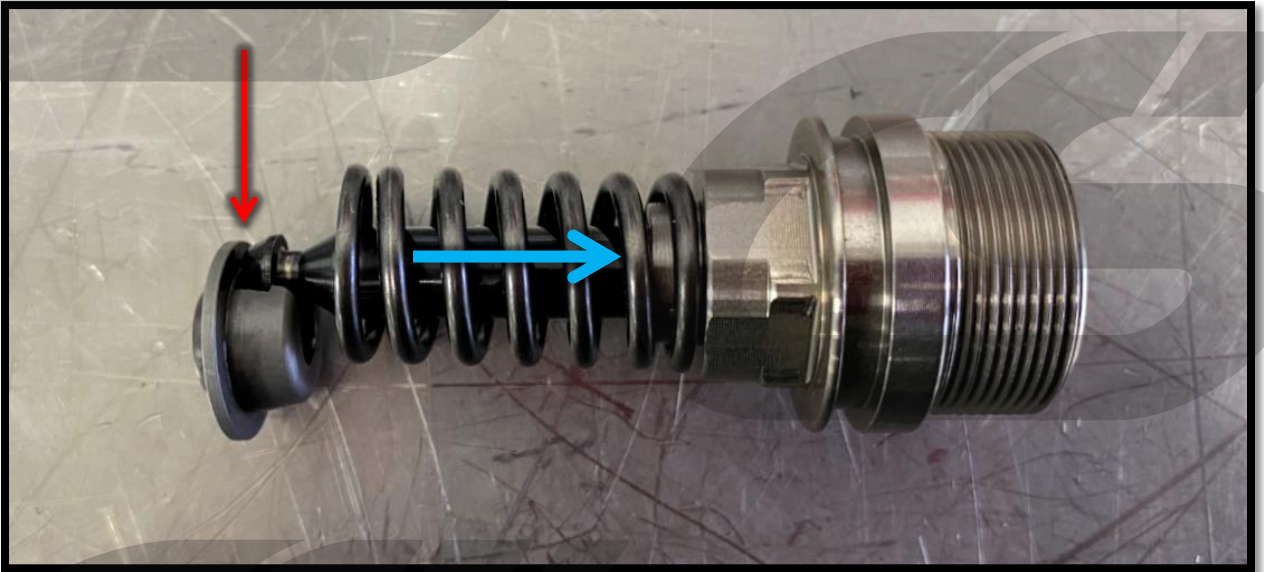

Figure 6f
- e) **CorkSport HPFP Internals** : Once the tappet has been released, you can push it off the end of the piston. Push in the direction shown in **Figure 6f** with the **red arrow**. Then remove the piston from the seal screw by pushing it in the direction shown in **Figure 6f** with the **blue arrow**.
- f) **Autotech (or similar) HPFP Internals** : Your piston sleeve should slide off the top of your piston with relative ease by pulling in the direction shown in **Figure 6f** with **red arrow**.
- g) **Autotech (or similar) HPFP Internals** : Then compress the spring on your HPFP and the silver retainer to release the "keepers" from the end of the piston. Remove these keepers and then the retainer. Keepers shown with **blue arrow** in **Figure 6f**.
- h) **Autotech (or similar) HPFP Internals** : Once complete, the piston can be removed from the seal screw by pushing in the direction of the **red arrow** in **Figure 6f**.
- i) Then, locate the OEM Piston X-ring on the inside of the seal screw. Use a pick tool or tweezers to remove this X-ring from the seal screw. Shown with **red arrows** in **Figure 6f**.